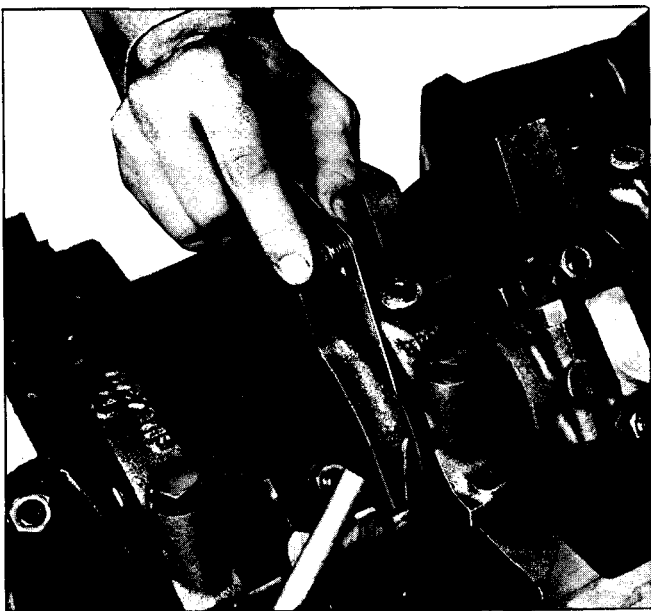

Fig. 6-165 Measuring Crankshaft End Play
1. Check end play (Fig. 6-165). Using hammer, tap end of crankshaft at rear until it is tight against front of thrust bearing (No. 4 main bearing). Measure clearance between crankshaft counterweight and thrust bearing. Proper clearance is .003" to .009" for all except 307 engine and .002" - .006" for 307 engine. If clearance is outside these limits, a new thrust bearing is required.